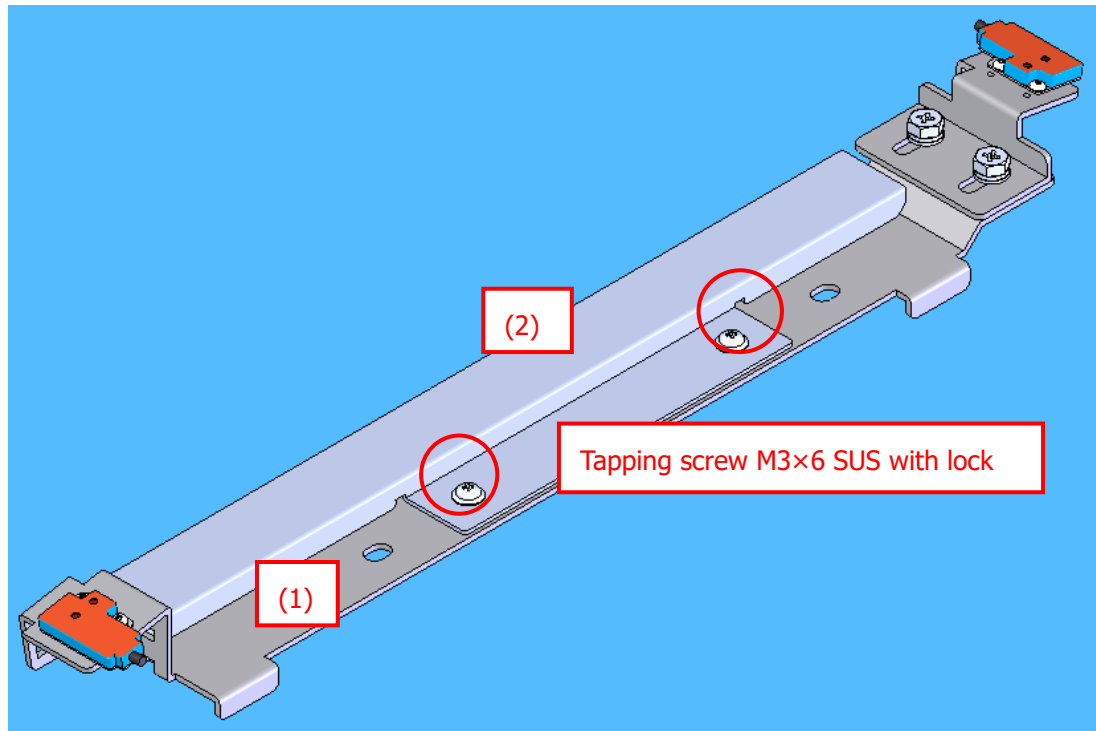

Fig. 3 Attach (2) to (1)
3. Attach harnesses in the same way as before and attach (2) to (1) (Fig. 3).